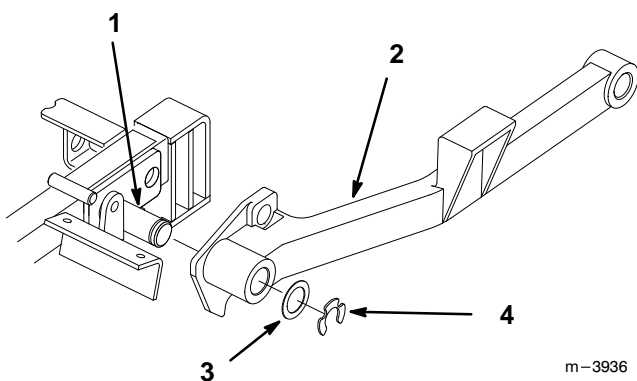

Figure 37
3. Remove the retaining ring and flat washer securing the push arm to the mower (Fig. 37).
6. Place push arm onto carrier frame pin and secure with 1-1/2" (38 mm) flat washer and retaining ring (Fig 37).